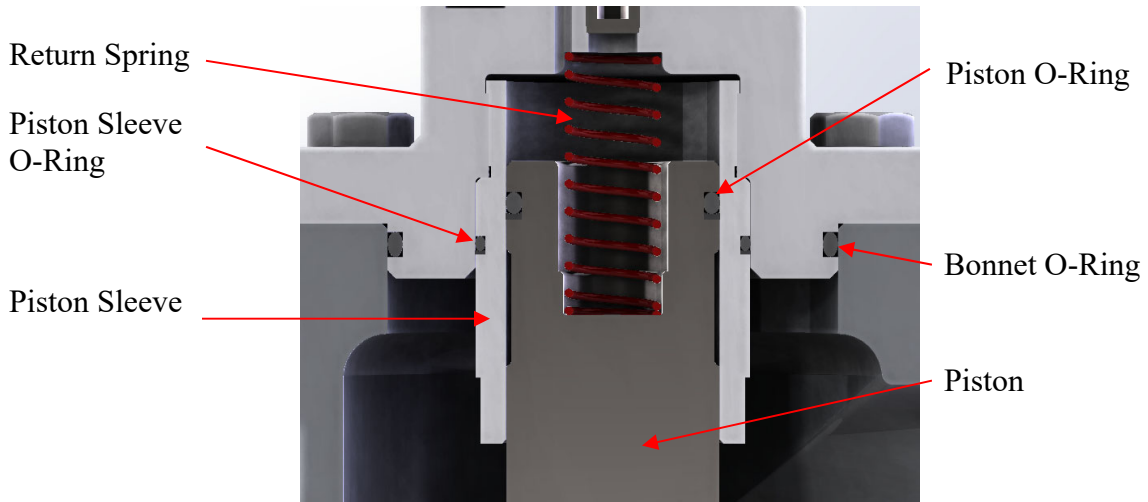

Figure 24: Typical Piston/ Dome Section
- i) The bonnet will have an o-ring that can be replaced, which is included in the repair kit. See Figure 24.
6. Remove the piston o-rings. See Figure 24.